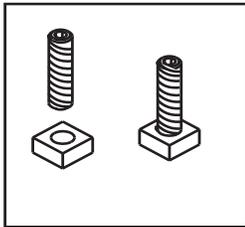

Figure 14.1
1. Thread Allen bolts through nuts until flush. **Figure 14.1.** The Allen bolts and nuts are included in the component pack inside the appliance firebox.